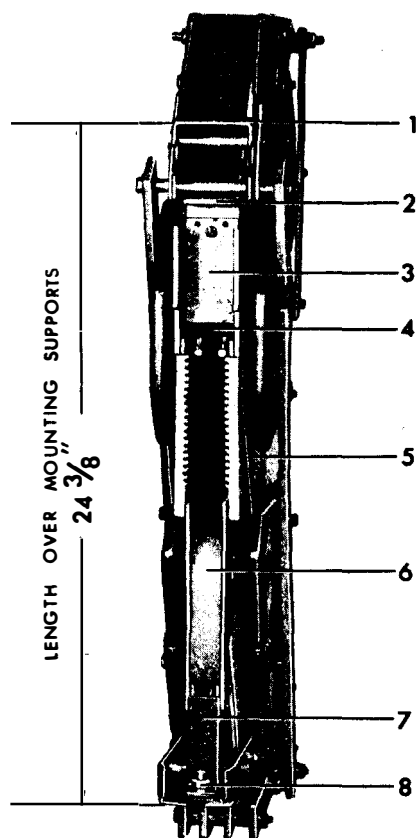

Figure 20. (8041413) Interrupter Assembly
2. Remove the side brace (7) and upper brace (5), the upper pole pieces (3), the lower pole pieces (8).
3. To remove the upper supports (12), and upper interrupter support (14) remove the assembly bolts (1 and 13), and the bolted connection between the upper interrupter support and the blow-out coil.
4. Remove the assembly bolt (22) to remove the lower brace (10).
5. Remove the lower interrupter support (20) by removing the assembly bolts (21) Figure 18 and the connection nut (8) Figure 20.
6. At this point, the side shields (5) Figure 20 and the upper arc runner assembly (2) can be removed. The throat coolers (7) Figure 19 are permanently affixed to the side shields.